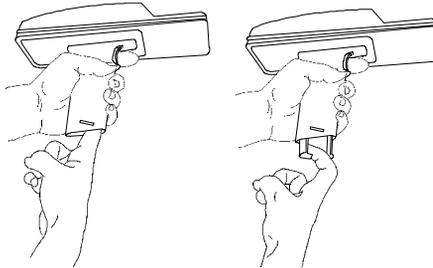

Figure 6-3. Removing the Alkaline Battery Adapter
3. Place your forefinger under the oblong (larger) side of the alkaline battery adapter as shown in Figure 6-3 and pull down firmly.